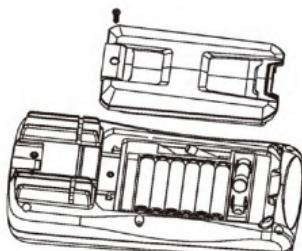

Fig. 15
2. Battery or fuse replacement procedures (see Fig. 15):